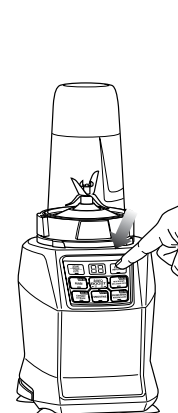

Fig. 3
- 6 Select the speed or Auto-iQ® program that suits your needs. (Fig. 3) The Auto-iQ® program will stop the appliance automatically at the end of the program.